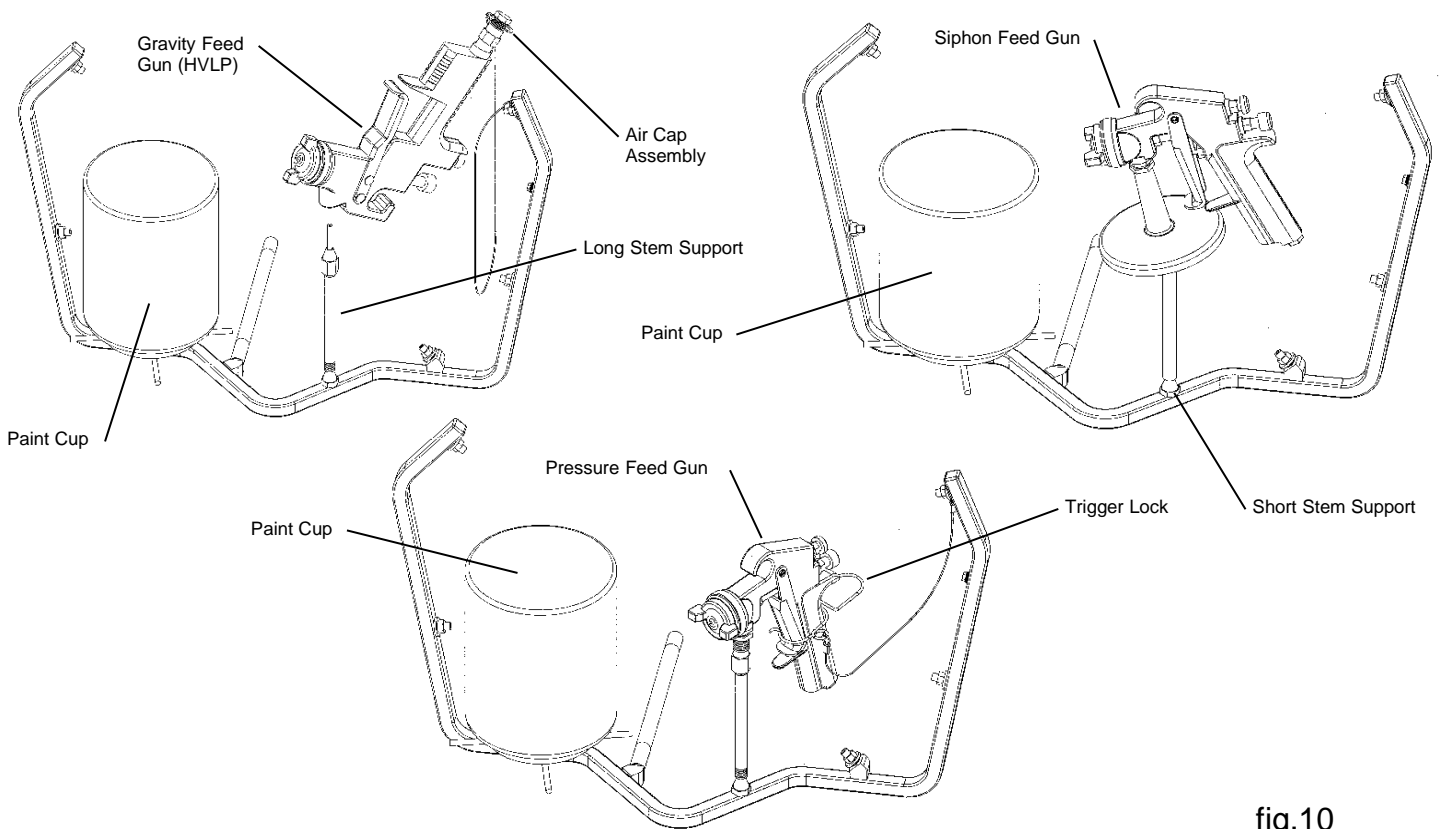

fig.10
- 4) Lock the gun trigger in the open position by placing the trigger lock around the gun handle and trigger (see fig.10).
To clean guns not mentioned here, use the long or short stem supports as needed [see fig. 10]. For questions or adapter kits, contact your paint gun washer distributor.
- 2) Place equipment in the tank according to the diagrams shown in fig.10.